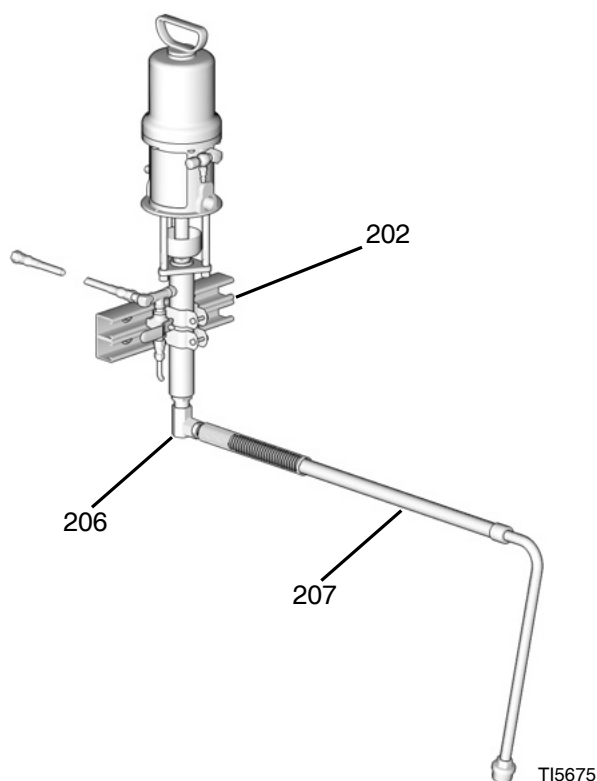

FIG. 1 Solvent Flush Kits
1. See FIG. 1. Install pump using mounting bracket (202) and hardware supplied. Mount bracket on wall, back of proportioner stand, or cart.